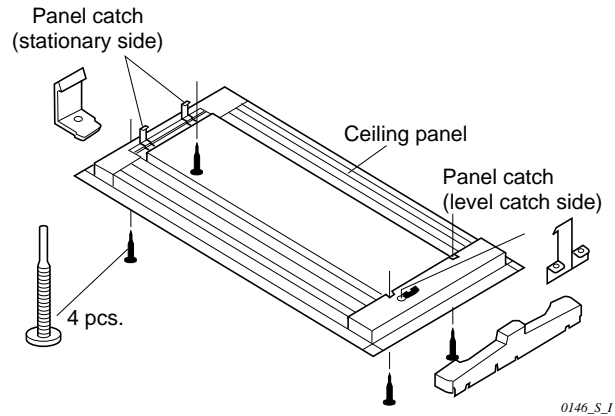

Fig. 11-5
- (1) Lift the ceiling panel and position it to align the panel catches with the catch recesses of the indoor unit.
- (2) Hook the stationary catch first and then press up on the opposite side to engage the level catch to install as shown in Figs. 11-5 and 11-6.